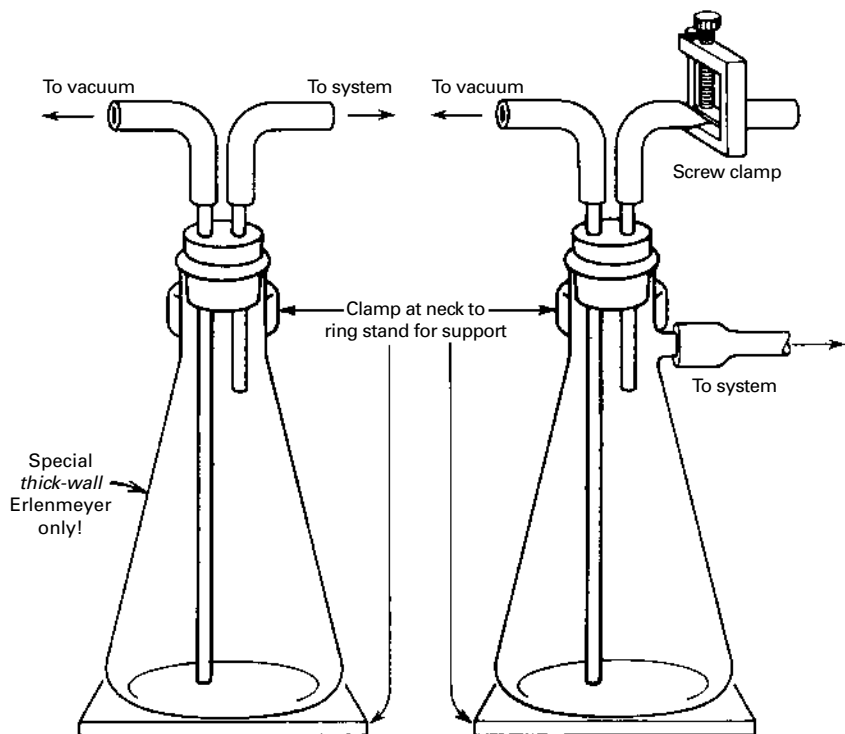

FIGURE 13.6 A couple of water traps hanging around.
2. Clamp a **filter flask** to a ring stand. This filter flask, often called a **suction flask**, is a very heavy-walled flask that has a side arm on the neck. A piece of heavy-walled tubing connects this flask to the **water trap** (see Figure 13.6).
So, for your own protection, make up a **water trap** from some stoppers, rubber tubing, a thick-walled Erlenmeyer or filter flask, and a screw clamp (Fig. 13.6). *Do not use garden-variety Erlenmeyers; they may implode without warning*. Two versions are shown. I think the setup using the filter flask is more flexible. The screw clamp allows you to let air into your setup at a controlled rate. You might clamp the water trap to a ring stand when you use it. The connecting hoses have been known to flip unsecured flasks two out of three times.